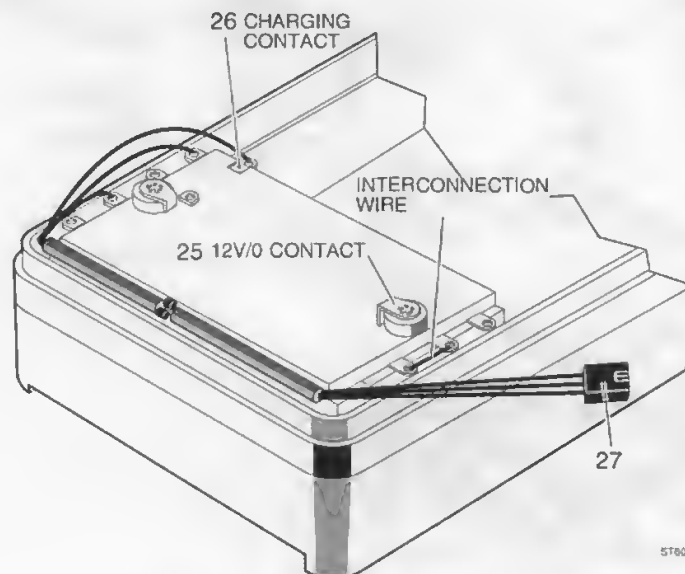

Figure 7.13 Wiring assembly replacement
3. Unsolder the small battery contact interconnection wire (see figure 7.13).